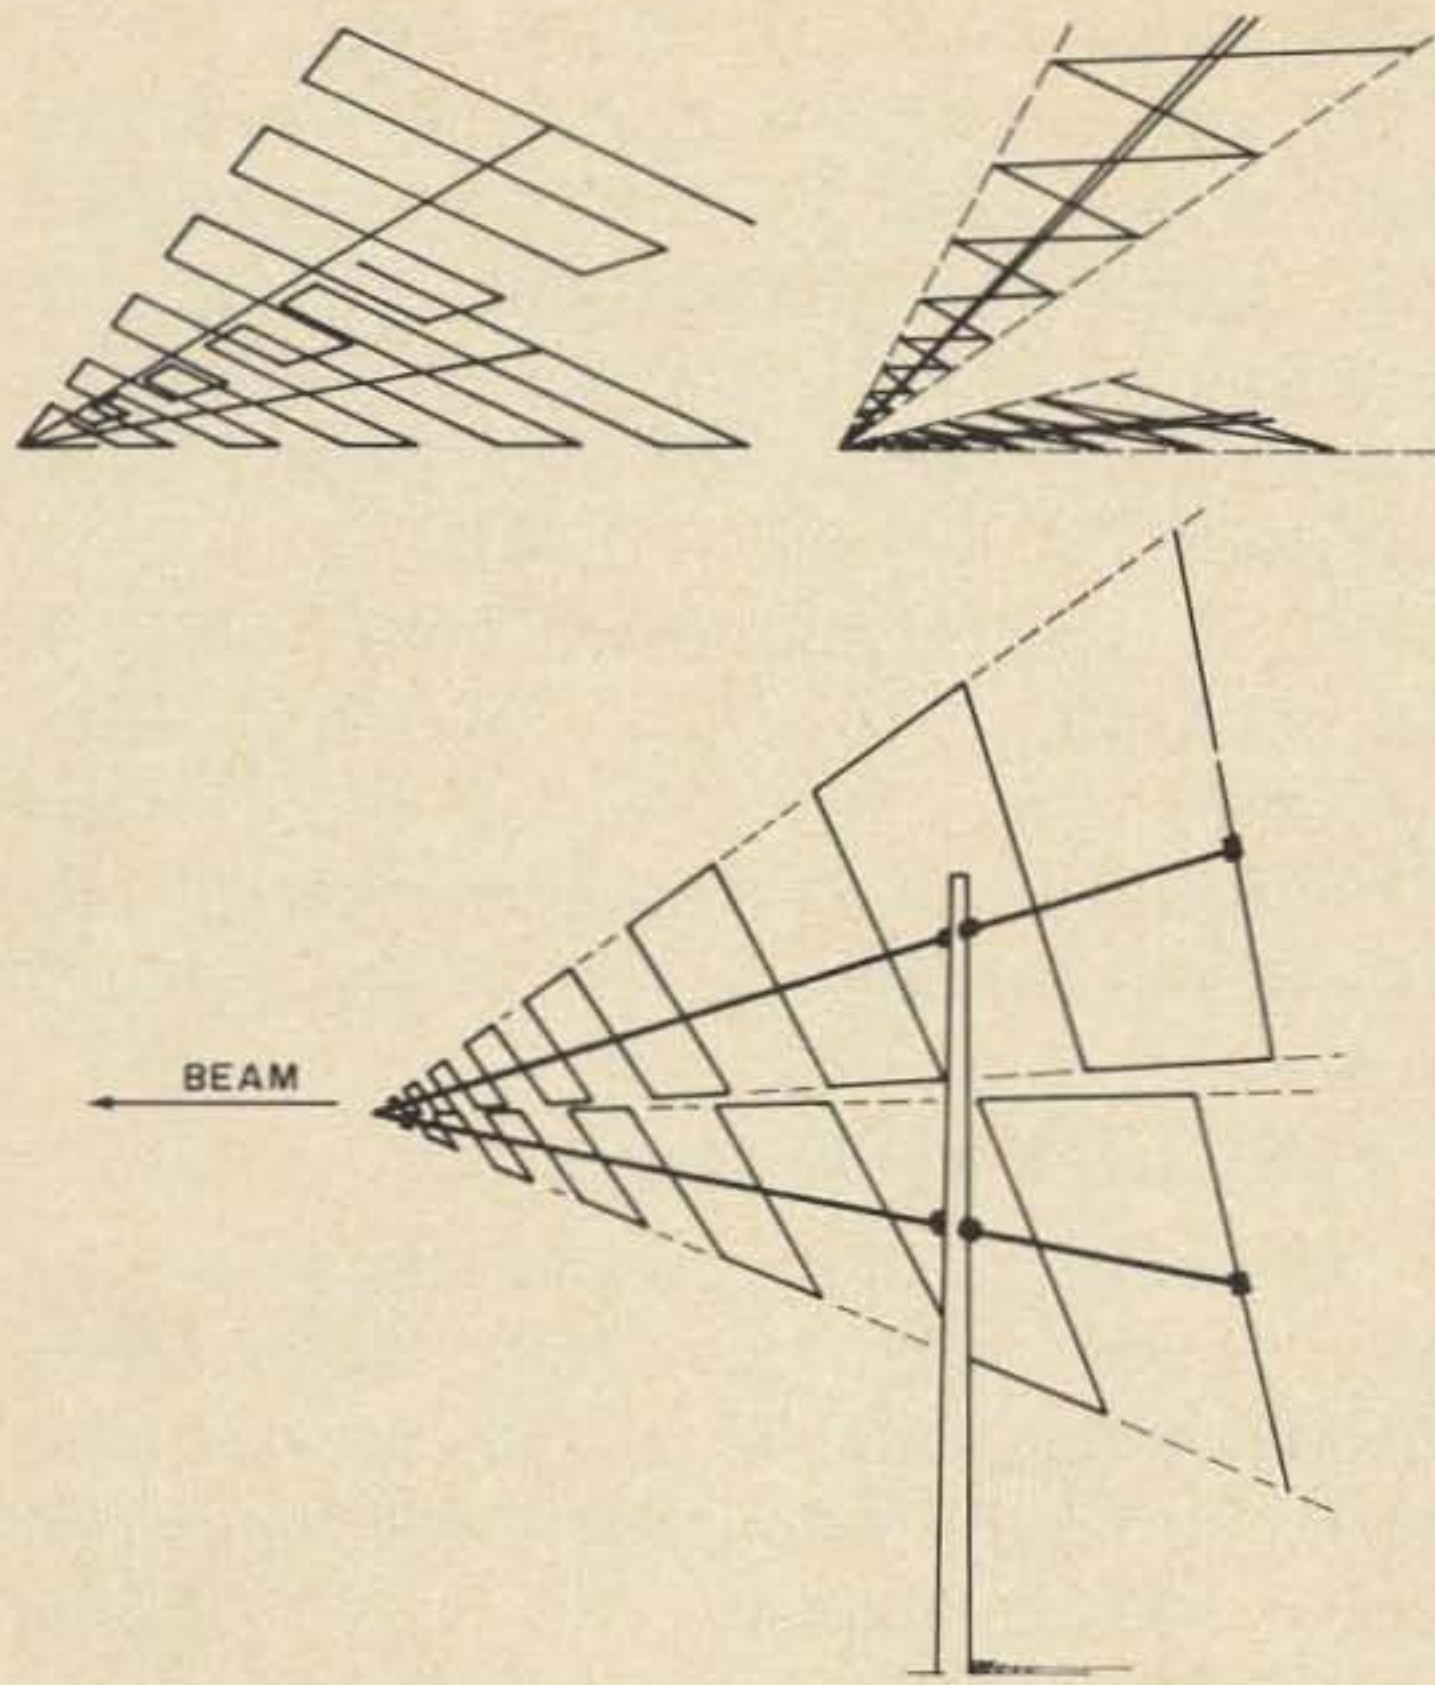

Fig. 3. Trapezoidal log periodics.
3) The trapezoidal zig-zag or saw tooth configuration, Fig. 3. This type being more complicated and not too suited for HF ham applications, will not be covered by this article which will deal only with the first two types.